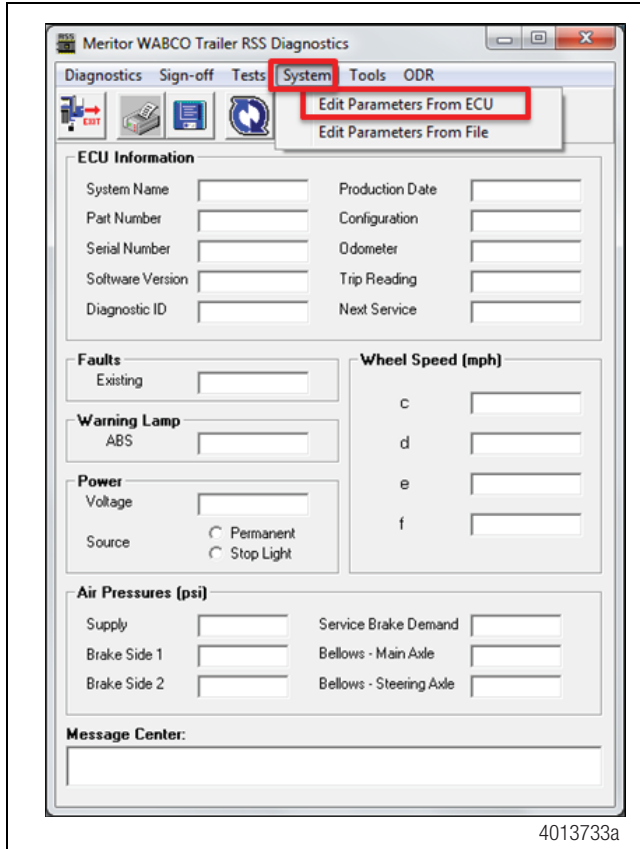

Figure 5
- From the top menu bar, go to the **System** pull-down menu and select **Edit Parameters from ECU**. Figure 5.